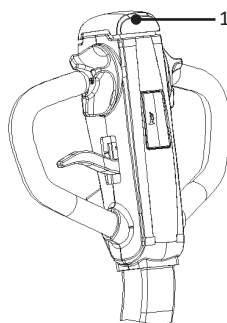

Fig. 11
**Emergency reverse button (Fig. 11)**